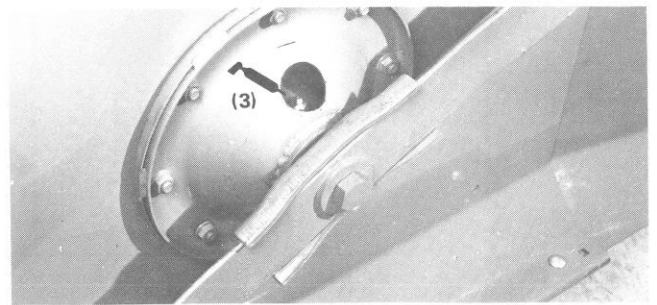
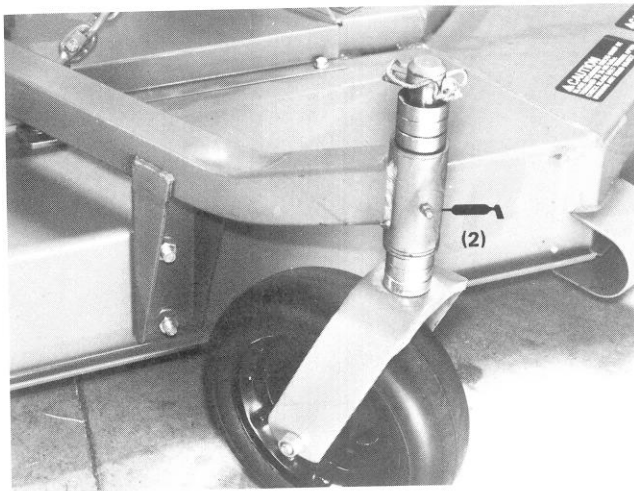
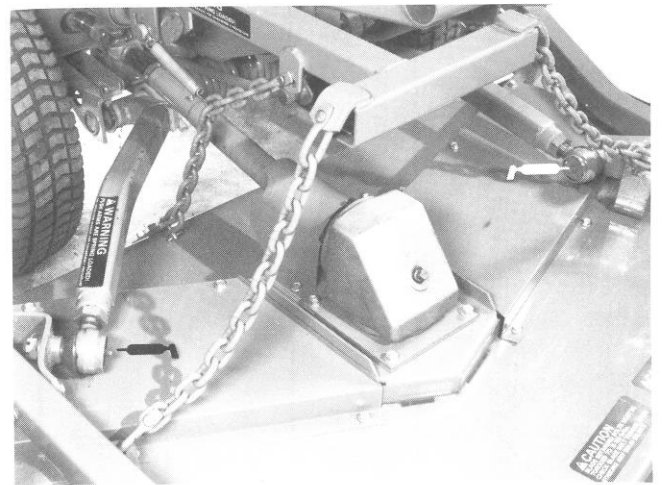
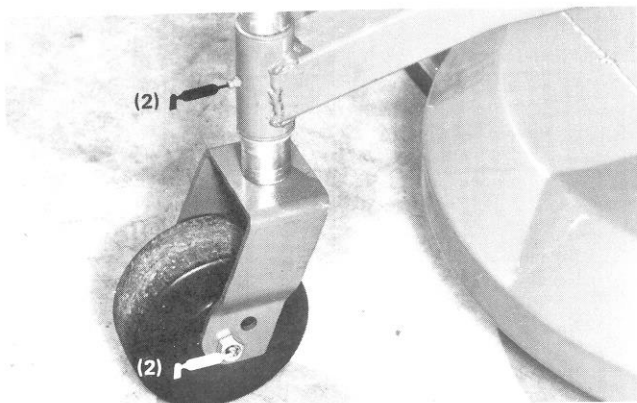

Figure 20
Figure 17
Figure 21
Figure 18
1. The cutting unit has bearings and bushings that must be lubricated, and these lubrication points are: caster spindle bushings (Fig. 17 and 18); caster wheel bearings (Fig. 18 and 19); blade spindle bearings (Fig. 20); right and left push arm ball joints (Fig. 21).